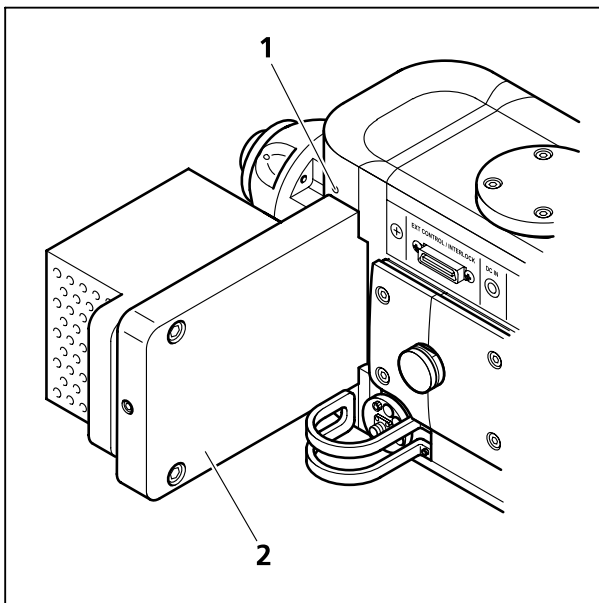

Fig. 4-12 Mounting the filter wheel
- Introduce the filter wheel (Fig. 4-12/2) into the spinning disc unit until mechanical stop position.
- Tighten the clamping screw (2,5" Allen key) (Fig. 4-12/1).